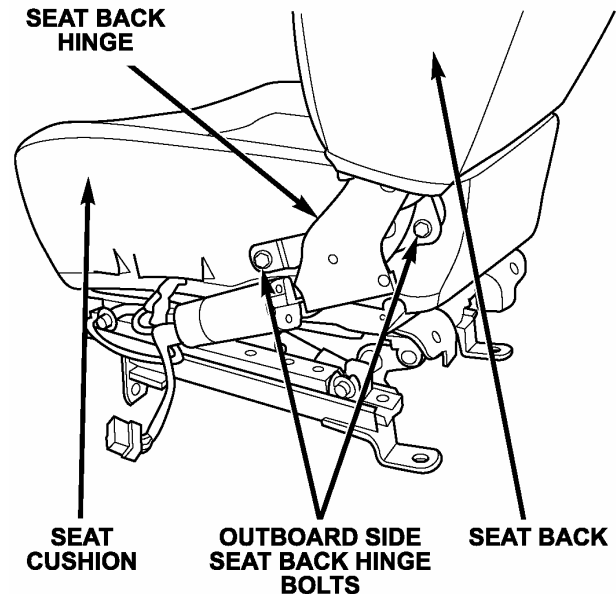

Figure 2
11. Remove the two outboard side bolts and the one inboard side bolt on the seatback hinge (Figure 2).